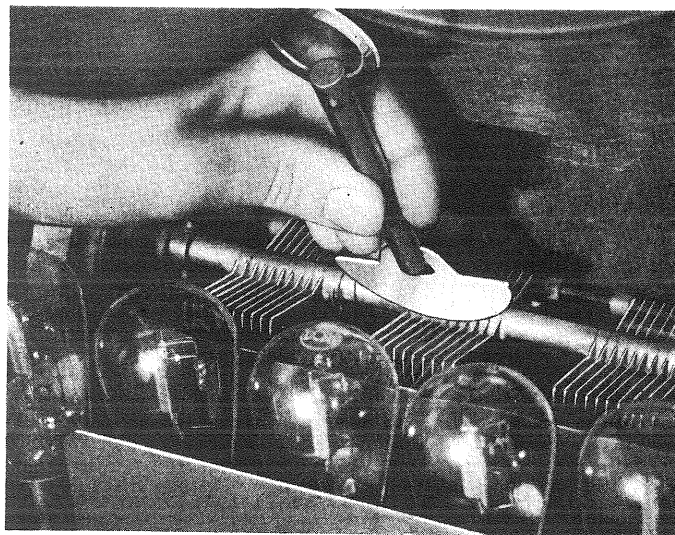

Figure 29—Checking condenser alignment in the three-gang tuning condenser assembly
- (b) Tune in a station at the upper wavelengths. Then with the condenser end of the tester, touch the rotor plates, see Figure 29, and note if an increase or decrease of signal is obtained in the loudspeaker. Should touching the rotor plates and bringing the plate closer to the stator plates increase the signal, then either that particular condenser is low in capacity or the coil it tunes is low in inductance. Should the signal decrease in volume, then the condenser and coil is either normal or high in value.